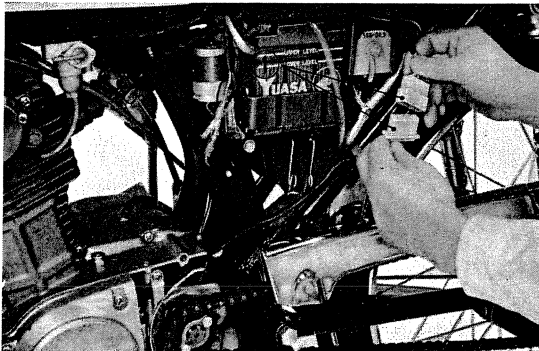

Fig. 29 ① Electrical coupler
- 8) Disconnect the coupler from wire harness. (Fig. 29)